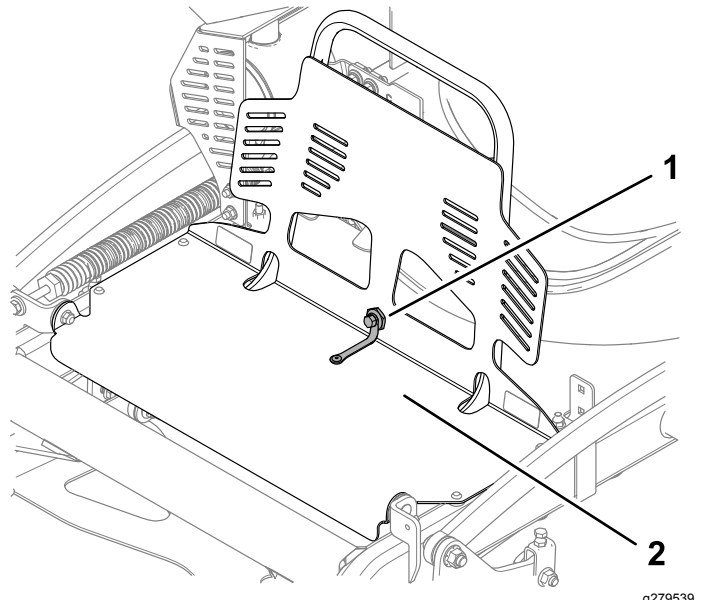

Figure 29
1. Remove the bolt and shoulder nut securing the engine guard to the guard extension (Figure 29).
4. Secure the engine guard to the extension guard using the bolt and shoulder nut as shown in Figure 29.